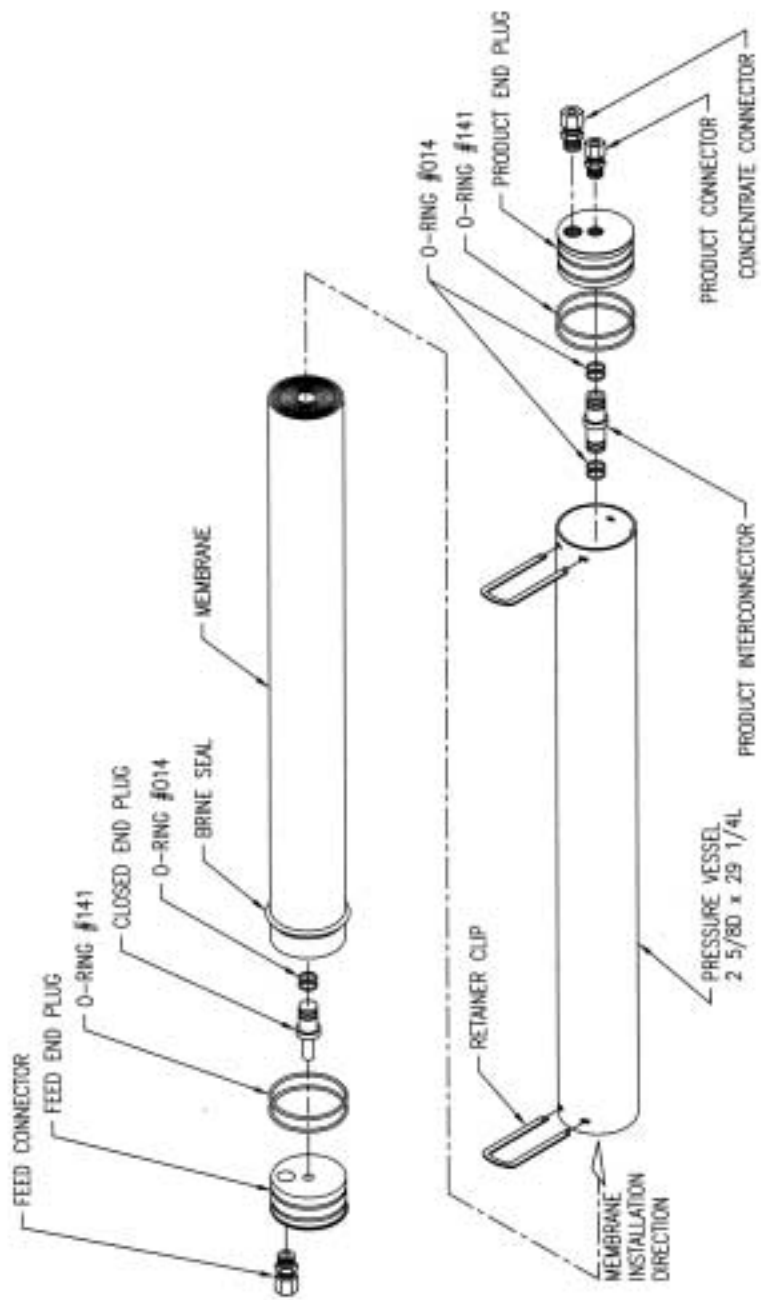

FIGURE 4
§7.3 MEMBRANE REPLACEMENT (see Figure 4)
- Install new membrane into the feed end of vessel (in the direction shown in Figure 4). Be sure to note the end with the brine seal.